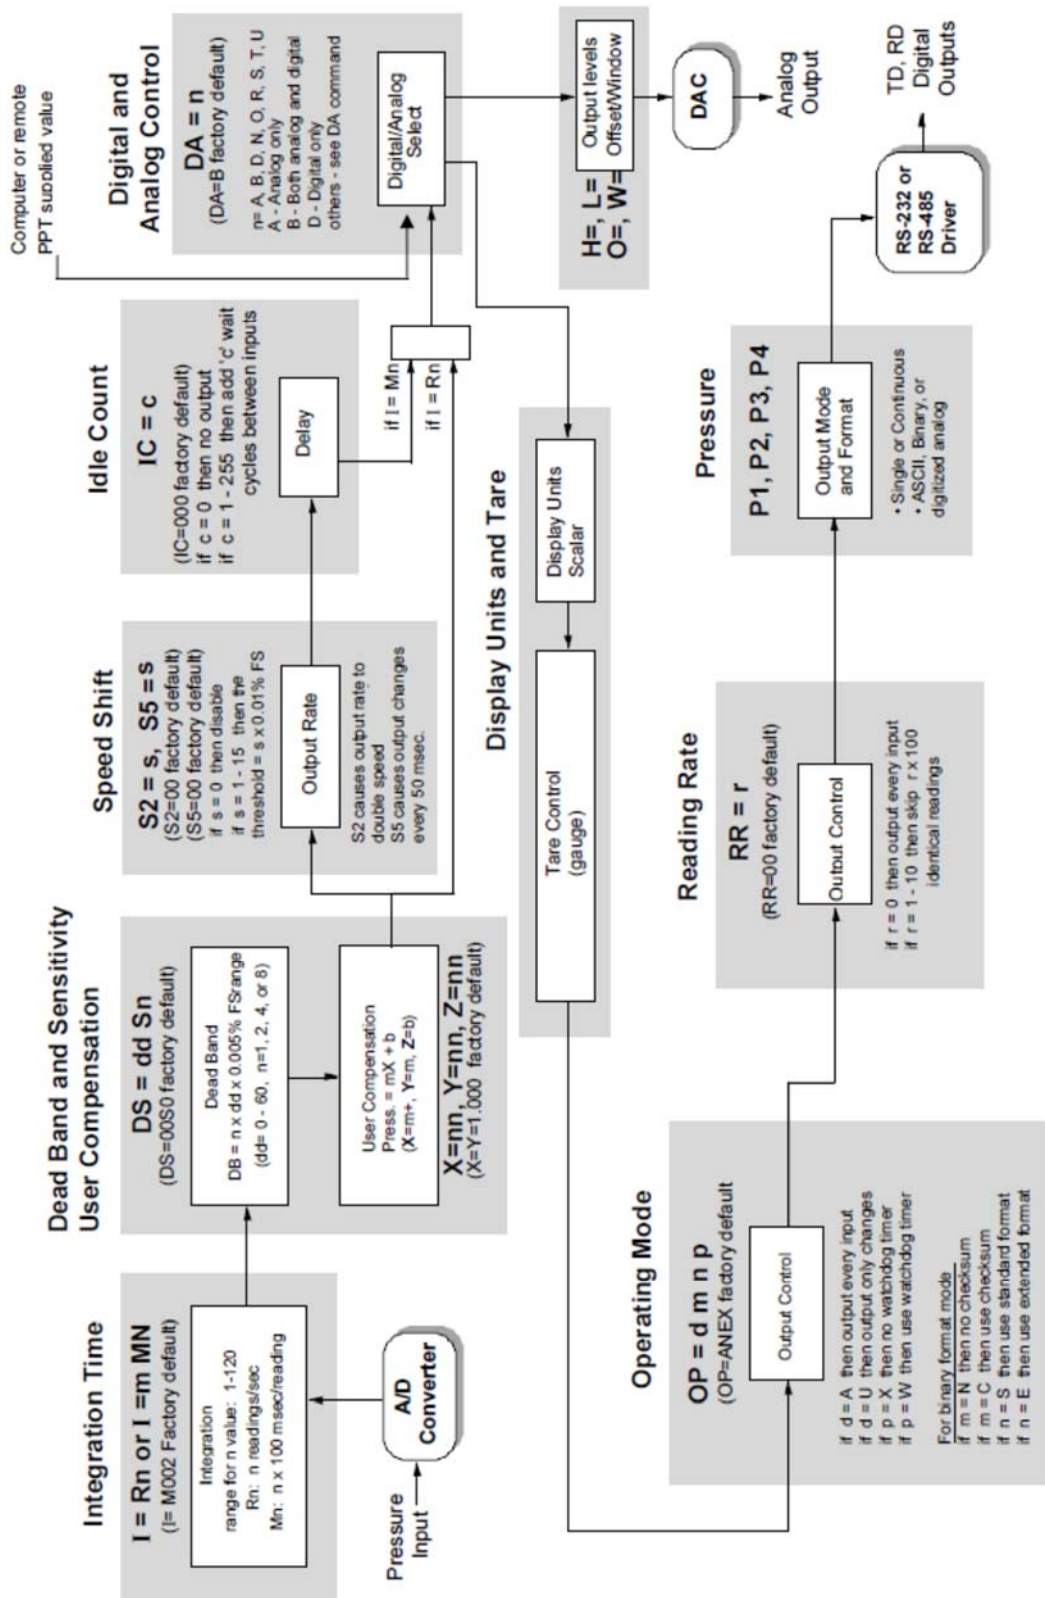

Figure 4.2 - Pressure Reading Control
The PPT commands allow considerable flexibility in tailoring pressure acquisition times, sample windows, thresholds, and output rates. These are controlled by 7 commands: Deadband and Sensitivity (DS), Integration (I=), Speed shift (S2), Speed shift at 50msec intervals (S5), Idle Count (IC), Reading Rate (RR), and Operating mode (OP). Figure 4.2 illustrates how the user may control these attributes in three ways: